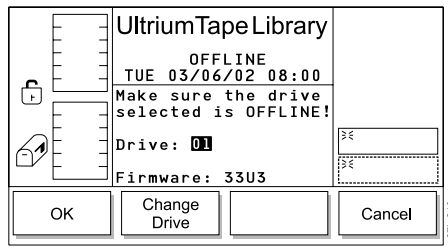

Figure 343. Drives Dialog
3. Press the button below the **Drives** softkey. The Drives Dialog displays the number of a drive in the library and its current level of firmware (see Figure 343).